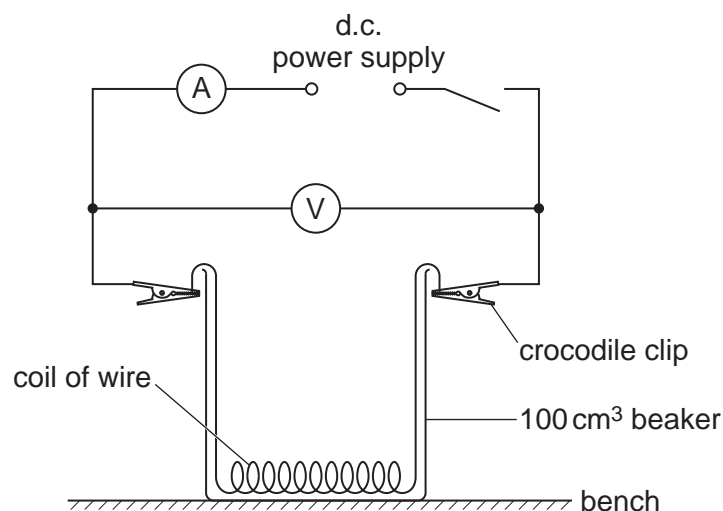

Fig. 4.1
Six connecting leads to enable the Supervisor to set up the circuit shown in Fig. 4.1.
2. A 50cm length of constantan wire of 28swg (0.38mm diameter) should give an approximate resistance of $2\ \Omega$. The constantan wire should be wound around a pencil to form a coil. This should then be placed at the bottom of the 100 cm^3 beaker with the two ends of wire protruding over the side of the beaker as shown in Fig. 4.1. The wire should be taped to the top edge of the beaker. The Supervisor should ensure that the turns of the coil do not touch.
7. At the changeover, the Supervisor should check that the circuit is set up as in Fig. 4.1 with the switch open. Water in the 100 cm^3 beaker should be discarded. The Supervisor should ensure that there is sufficient water at room temperature for the next candidate.